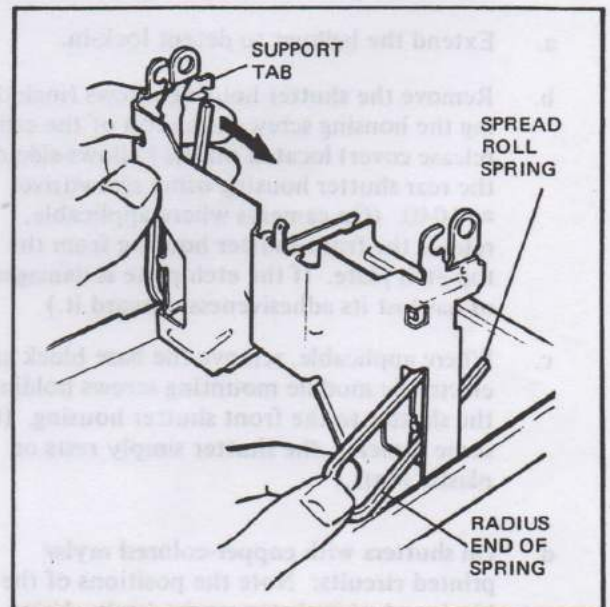

FIG. 5.7 REMOVING THE SPREAD ROLL SPRING
3. Remove the spread roll spring (Figure 5-7): Compress the spring and force it toward the center of the frame roller support until it disengages from the support tab. Hold the spring near the radius and pull down and out until it is free.
1. Replace the spread roll spring (Figure 5-7): Hold the radius end of the spring and insert the spring in the frame roller support so that the lower end of the spring seats on the front roll support tab. Apply a downward pressure on the upper end of the spring and force the spring under the frame roller support tab.